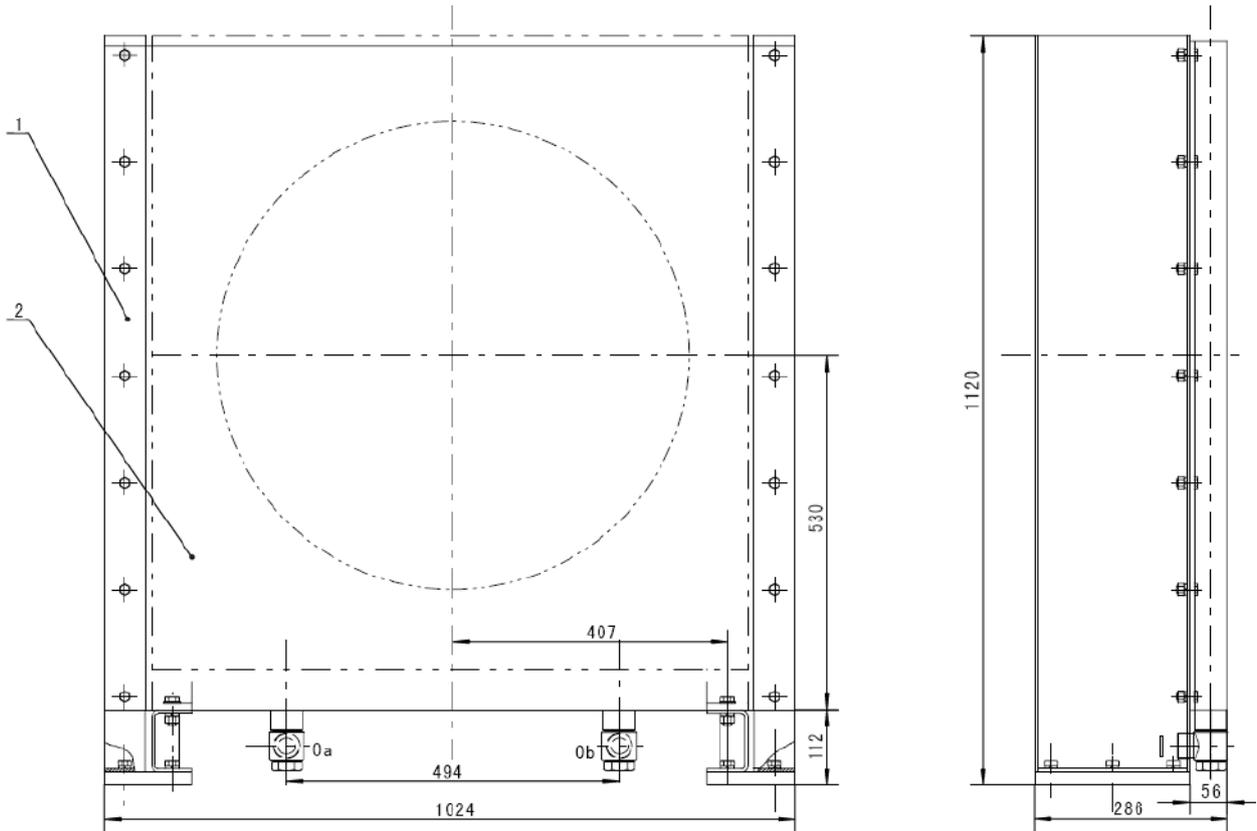

Fig 2-5 Outside Drawing for Air-cooling Device
The function of air-cooling device is to cool down the discharged oil from the main pump (closed type) before it returns to oil tank, and its structure is indicated as in Fig 2-5: composed of two parts including Cooler Bracket (1) and Cooler (2).